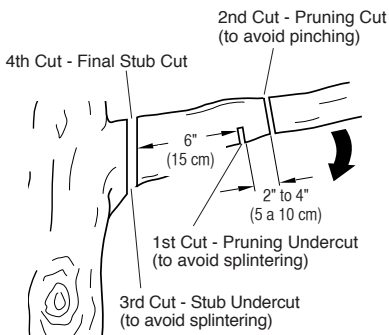

Figure 15 - Cutting A Limb
1. Make first cut six inches from tree trunk on underside of limb. Use top of guide bar to make this cut. Cut 1/3 through diameter of limb (see Figure 15).